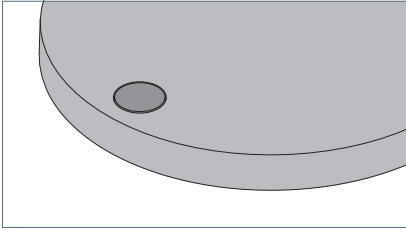

Fig. 8: Button.
- Briefly press the button, see Fig. 8.
- Press the button and keep it depressed, see Fig. 8.
- ▶ Press the button and keep it pressed for ten seconds, until the luminaire starts flashing at regular intervals, see Fig. 8.